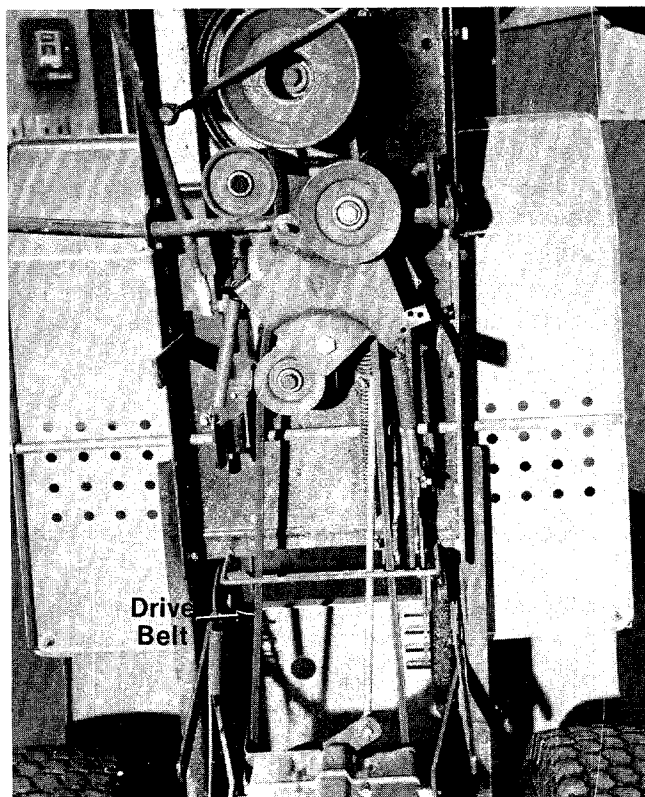

**FIGURE 22.**
1. Loosen the jam nut. (See figure 22.)